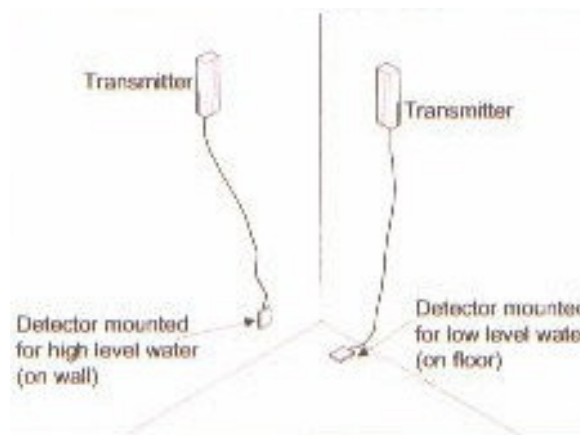

Figure 5
- Locate the transmitter about 4 feet above the floor. Make sure the detector reaches the desired location, either on the wall a few inches up for a “high” detection or on the floor for a “low” detection, as shown in Figure 5.